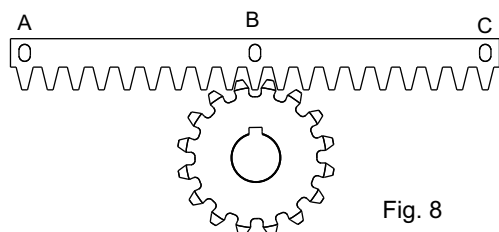
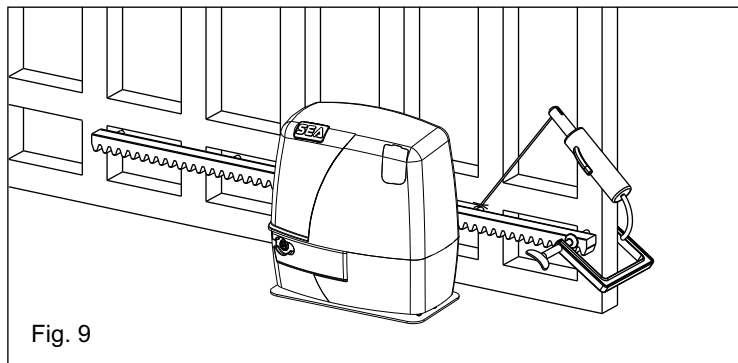

Fig. 8
Fig. 9
5.3. Lean the gear rack element on the toothed pinion of the motor in parallel to the ground slideway of the gate, as shown in Fig. 8 and electrically weld the central pawl B to the gate structure (Fig. 9).